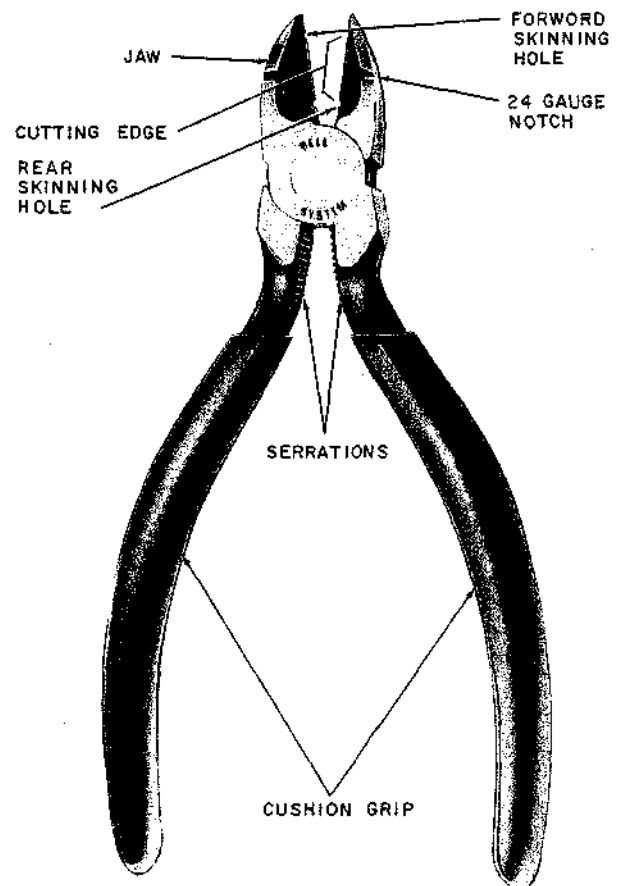

Fig. 1—D6 Diagonal Pliers
2.01 The D diagonal pliers are approximately 6 inches long and are equipped with cushion grips on the handles, as shown in Fig. 1. The cutting edge of the D pliers is designed with two skinning holes. A 24-gauge notch is cut into the outside edge of each jaw. The inner surface of each handle is serrated approximately 5/8 inch and contains 20 to 24 serrations per inch.